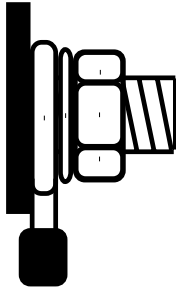

Figure 1-9 DC Cable Connections
Refer to Figure 1-9.
10. Install the lock washer and nut that are supplied with the inverter. Tighten the nut to a torque of 108–120 in-lbf (12.2–13.6 N-m). Make the connection snug enough so the ring terminal does not move around on the DC terminal, but do not overtighten. See Figure 1-9, “DC Cable Connections” on page 1–26.